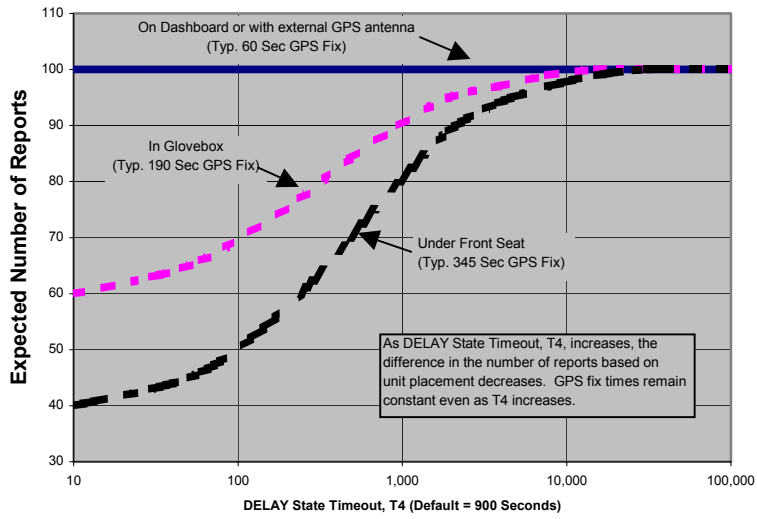

Figure 1, Vehicle Placement versus Expected Number of Reports
3. Depending upon how the TrimTrac 1.5 is configured to operate, placement within the vehicle can have a significant impact on battery life and, as shown in Figure 1, the number of position reports that are generated. Actual results will vary.